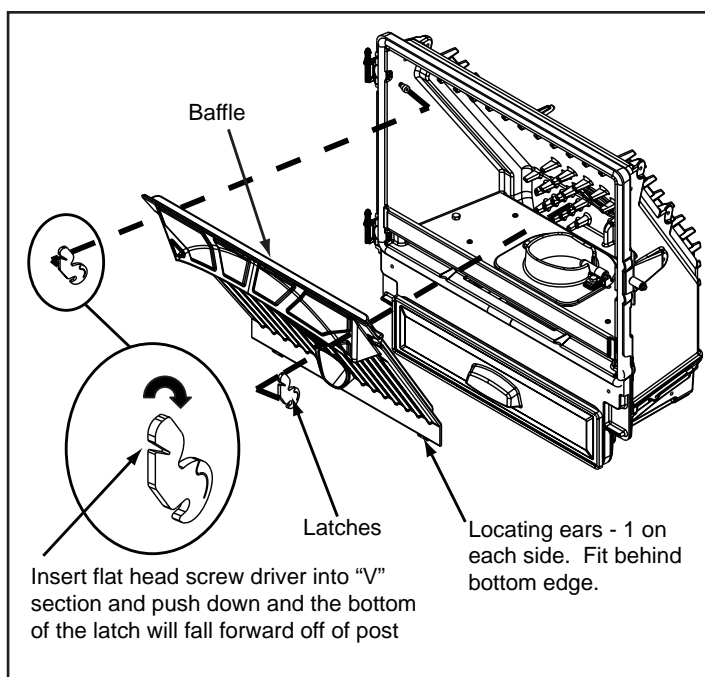

Figure 29.1
- Remove baffle by placing a flat head screw driver into the slot of the latches located in the upper corners and push down. The bottom of the latch will fall forward off of the post. Lift the baffle up and then out toward you. **Figure 29.1.**